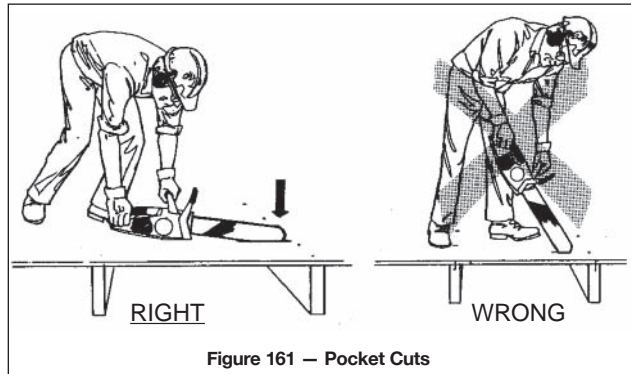

Figure 161 – Pocket Cuts
- Take extra care when making pocket cuts (Figure 161). Start the cut with the underside of the chain tip, then work the saw down and back to avoid contact with the kickback zone. Consider an alternative such as a sabre saw.